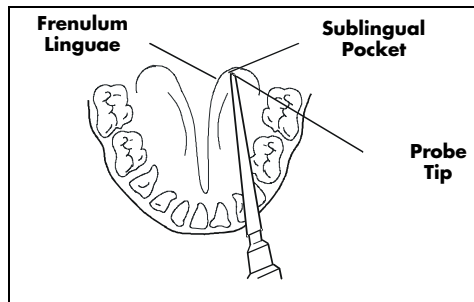

FIGURE 3-20 Probe Placement for Oral Temperatures
5. After probe warms, apply the probe under the patient's tongue from either side of the mouth (see FIGURE 3-20). Verify that the probe reaches the rear sublingual pocket. Have the patient close his/her lips to hold the probe.